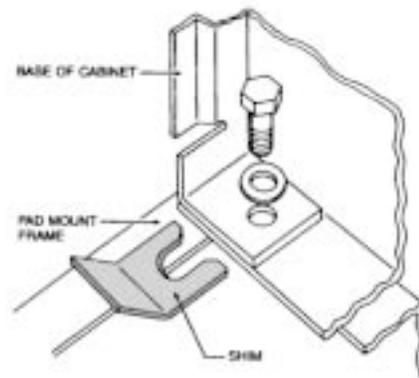

Figure 4
- Step 8** Attach the cabinet to the frame using the supplied hardware. Use shims as needed (Figure 4) between the pad-mount frame and the cabinet to keep the cabinet squared.